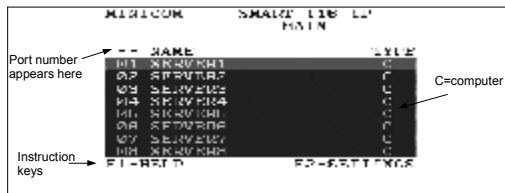

Figure 5 OSD Main window
2. Press **Shift** twice. The OSD Main window appears. See Figure 5. Lines with yellow text show active computers. Lines with blue text show inactive computers. The Type column indicates a computer "C" is connected to the port.